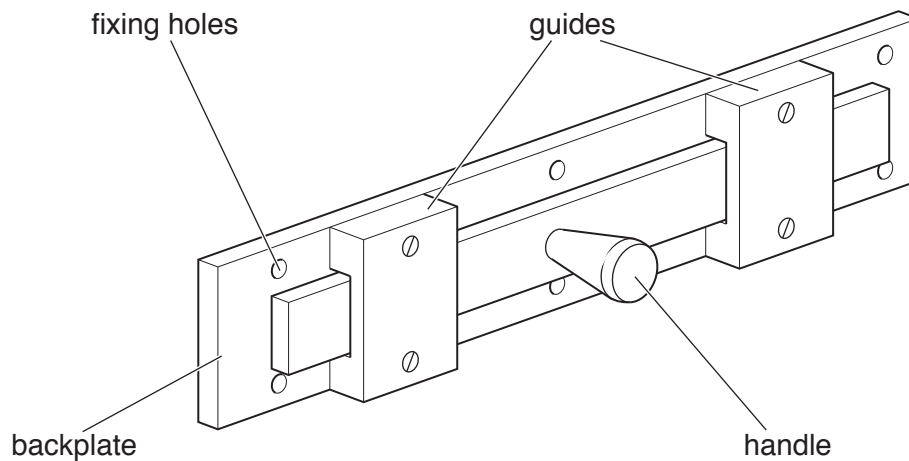
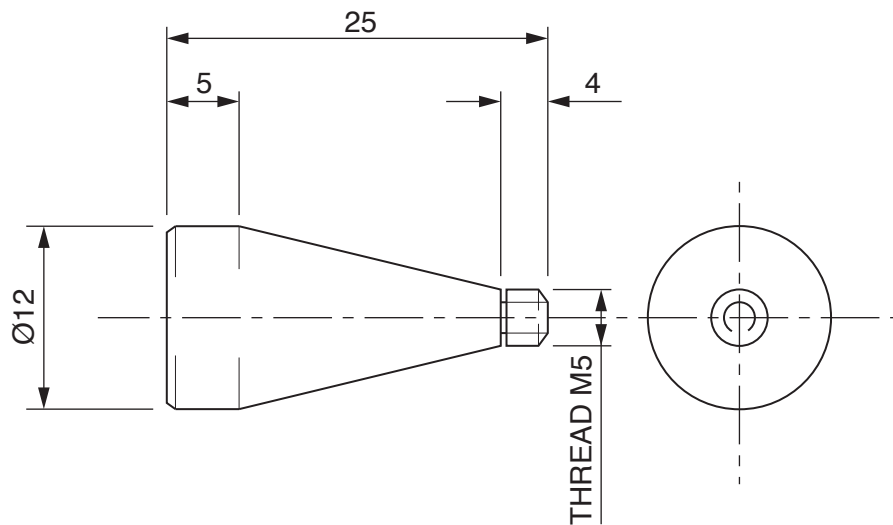
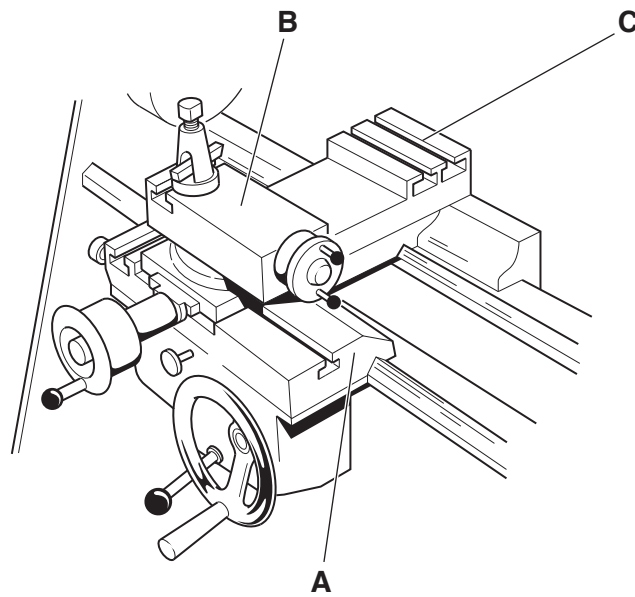

Fig. 3
Fig. 4
Fig. 5
- 18 Fig. 3 shows a simple bolt made in a school workshop. The parts of the bolt are made from mild steel.
(b) An engineering drawing of the handle for the bolt in Fig. 3 is shown in Fig. 4 below.
- (ii) Fig. 5 shows the parts of the centre lathe that control the movement of the cutting tool.
Name the **three** parts of the centre lathe labelled in Fig. 5.
- (iii) State which part of the centre lathe shown in Fig. 5 would need to be adjusted to produce the tapered section of the handle shown in Fig. 4.